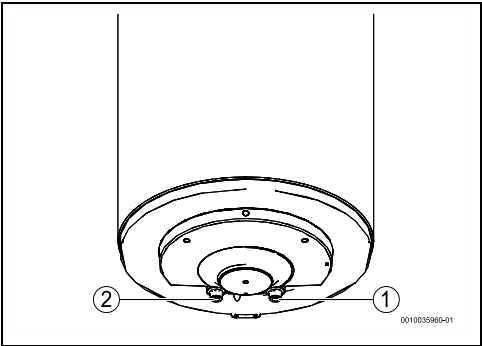

Fig. 11
- ▶ Close the water shut-off valve (→ Fig. 11, [5]).